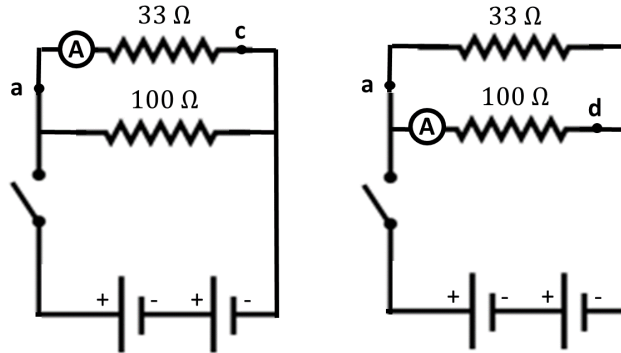

Figure 6.11: Measuring the current and voltage across individual resistors in a parallel circuit.
3. Relocate the CM as shown in Fig. 6.11 and measure the current through each resistor, i_{ac} and i_{ad} . Use the VS to measure the voltage across each resistor, ΔV_{ac} and ΔV_{ad} , across the points a, c and a, d as labelled in Fig. 6.11. How are the current values at the three different locations related?